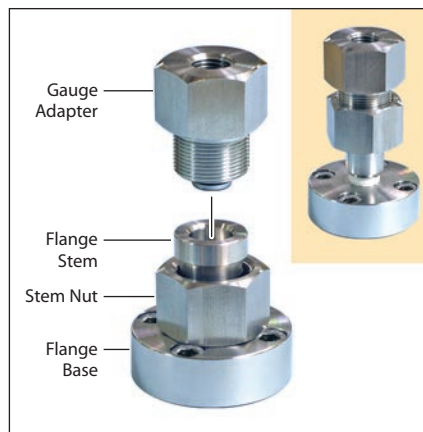
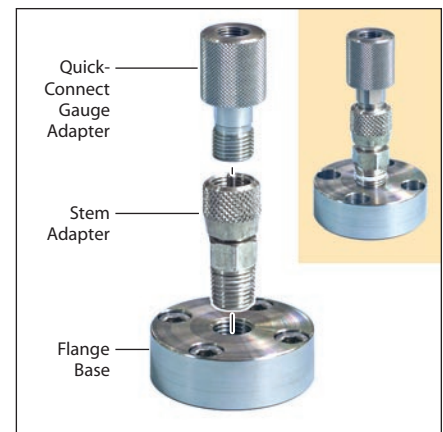

Figure 2. Two stainless steel gauge adapters are supplied with the GaugeCalXP Pressure Comparator.
Figure 3. Optional quick-connect gauge adapters allow quick interchange of gauges without the need for sealing tape or wrenches.
There are two (2) stainless steel flange bases. Each base has a 1/4" female (tapered) NPT thread. These bases are intended to have either a flange stem (**Figure 2**) or stem adapter (**Figure 3**) for quick connectors installed. It is possible to install an XP2i reference gauge directly into the base, but this is practical if only one XP2i will be regularly used with the comparator.